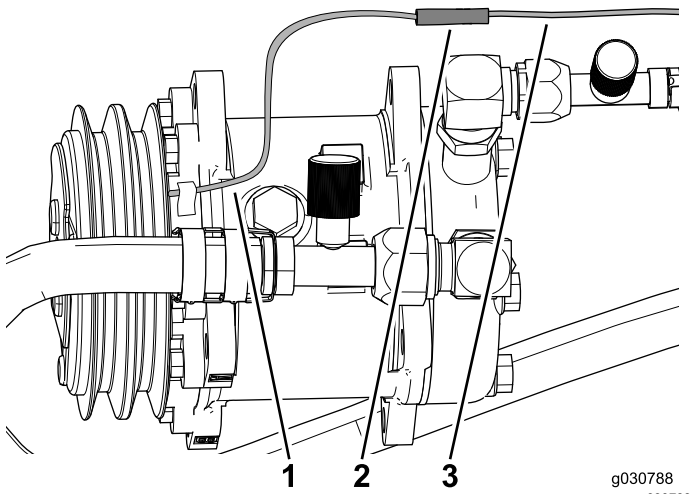

Figure 51
3. Connect the wire from the air-conditioner compressor to the bullet connector on the wire harness (Figure 51).